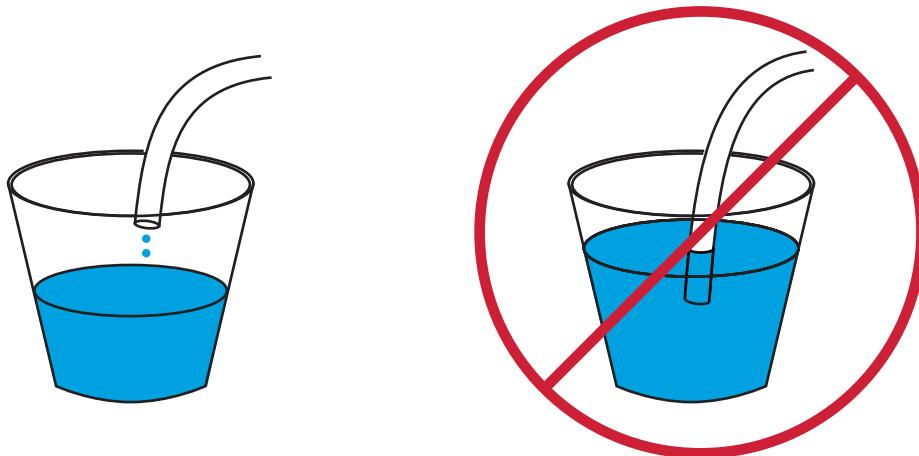

Figure 16 Drip tube correctly hung (left) and incorrectly submersed (right)
- The open end of the tubing is not submerged in the drainage container (Figure 16).